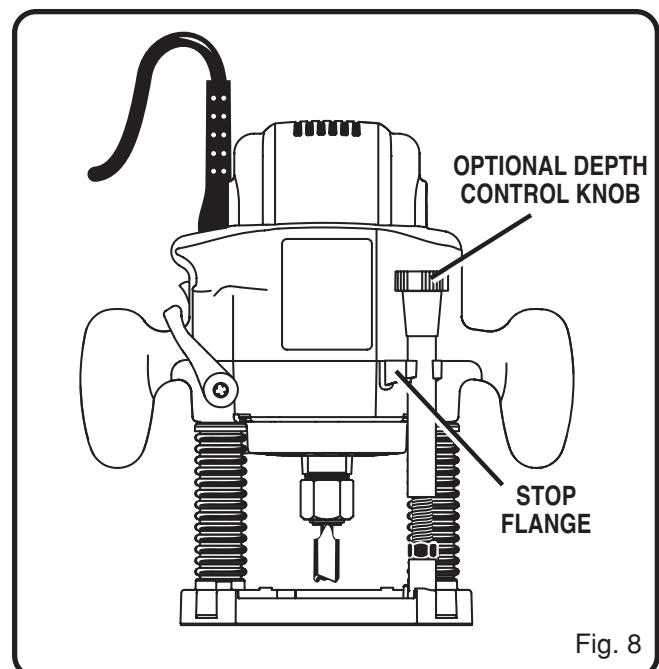

Fig. 8
See *Figure 8*.
- Place compression spring on top of hex nut as shown in *Figure 8*.